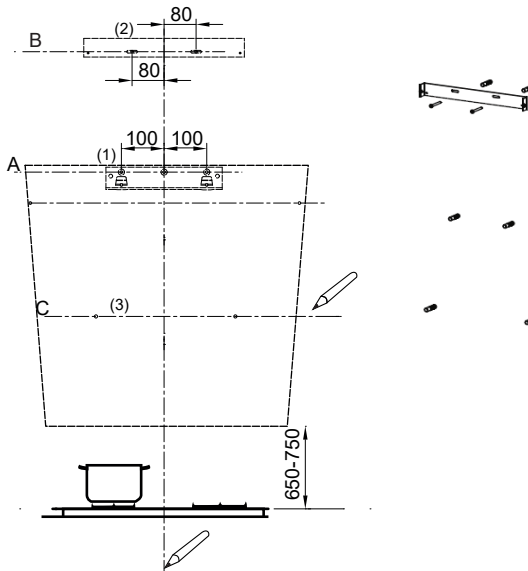

Fig. 4
4. Drill holes and attach the hood according to Fig. 4.
7. Place the lower part as well as the upper part of the chimney on the hood hung (Fig. 4). Lift the upper part up to the required height and mark holes on the wall for attachment of the upper chimney part bracket. Subsequently remove the lower as well as the upper chimney part.
8. Drill holes and attach the upper chimney part bracket as shown in Fig. 4.